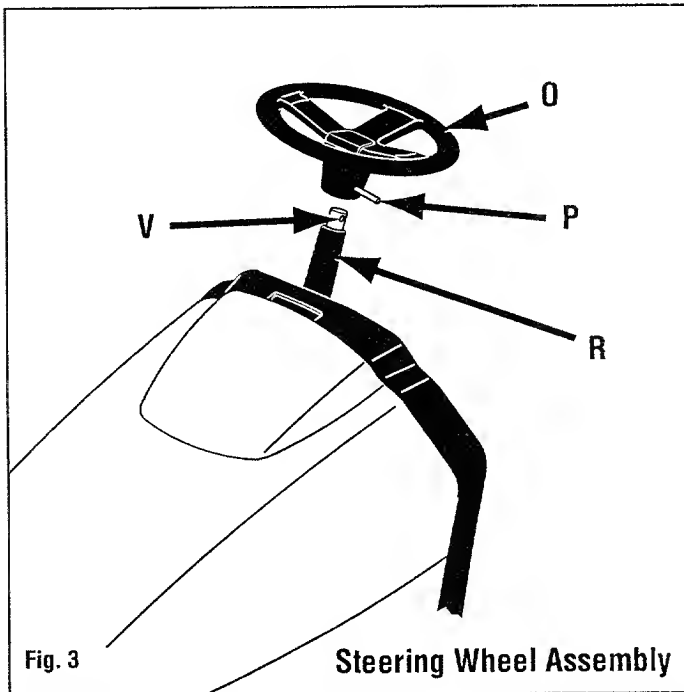

Fig. 3
- Place steering wheel (O, Fig. 3) with roll pin (P) over steering column (R). Rotate steering wheel as shown.
- Align steering wheel on steering shaft (V) as follows: place drift pin in hole opposite roll pin in steering wheel. Rotate steering wheel until drift pin slides into mating hole in steering shaft.
- Secure steering wheel by tapping roll pin (P) with hammer until it is completely inside steering wheel.